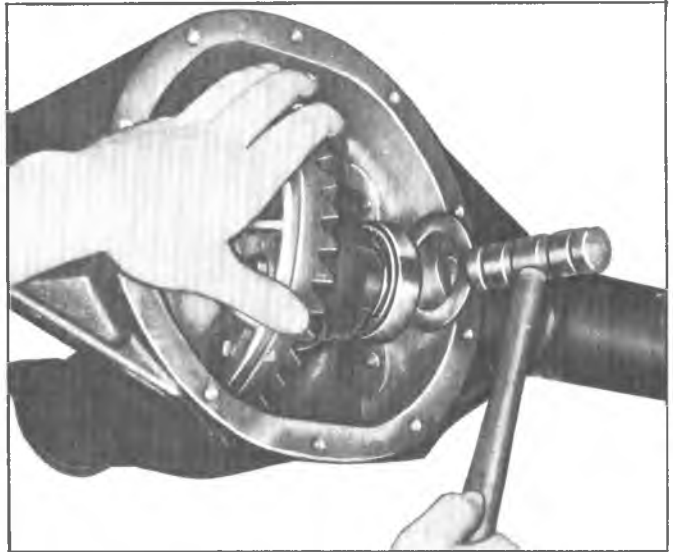

Fig. 9A—Installing Differential Shim
11. If difficulty is encountered in installing shim, partially remove case and slide case and shim into position. Tap shim into position, using a soft faced hammer, while rotating differential case with free hand. See Figure 9A.